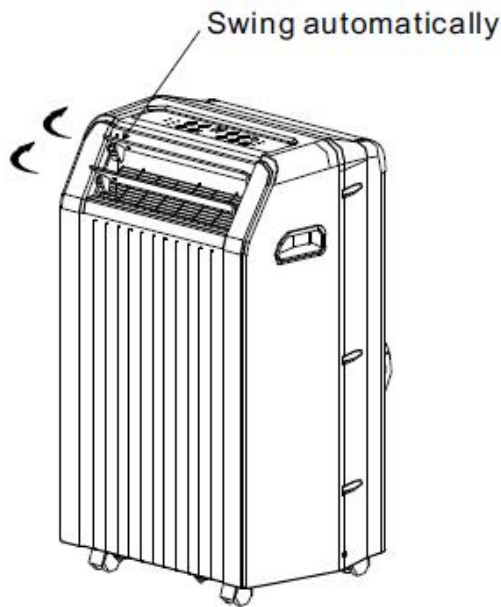

Fig. 5
Adjust the air flow direction automatically (Fig.5)
- If the SWING button is pressed for more than 2 seconds, the AUTO SWING feature will activate. The louver swings as shown in Fig. 5.